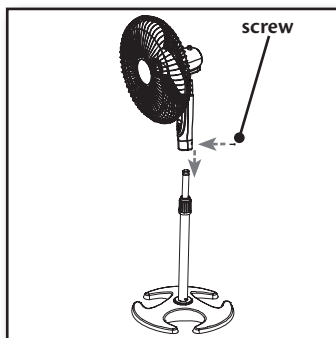

Figure 9.
3. Slide the Fan Assembly onto the telescope pole of the base until it rests on the top of the pole. **Figure 9.**